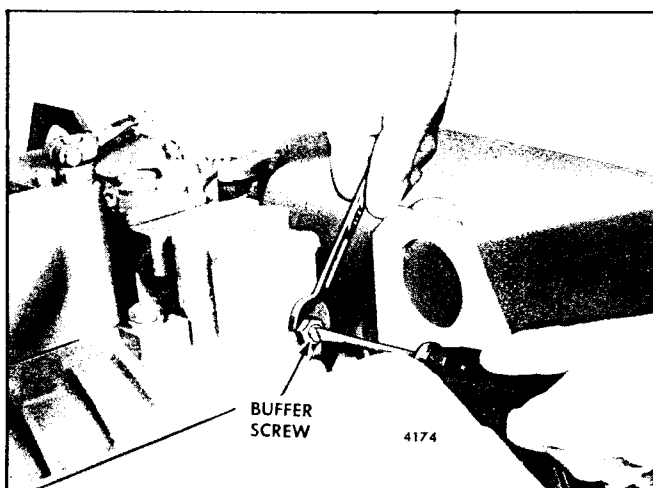

Fig. 13 - Adjusting Buffer Screw
1. With the engine running at idle speed, turn the buffer screw in (Fig. 13) so that it contacts the differential lever as lightly as possible and still eliminates engine roll.